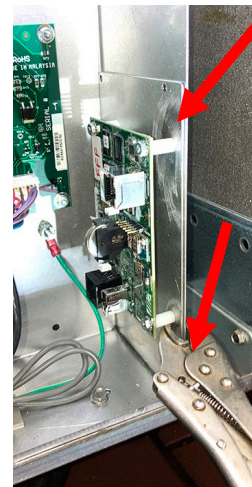

Figure 16
14. Orient the KCCM mounting plate with KCCM board on the right side of the FIB box as shown. Temporarily secure with vise grips (see Figure 16).